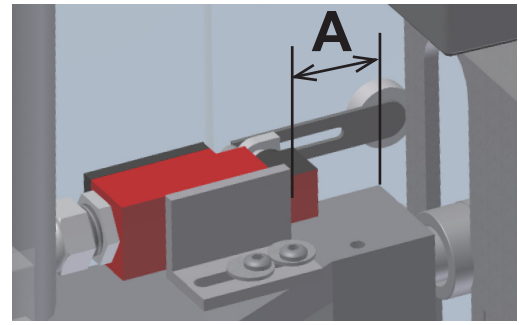

Fig 4 Adjusting the CE microswitch on ERGO60 and ERGO100:
**ERGO60** and **ERGO100**, see **Fig. 4**, page 19.